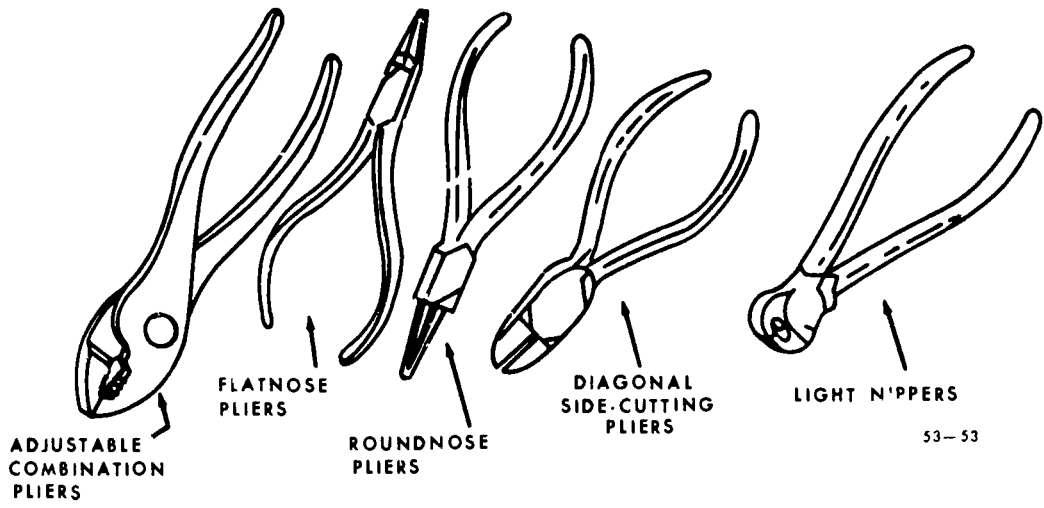

Figure 5-2. Pliers.
**Pliers.** As with screwdrivers, there are many types of pliers, and each type was designed to do a particular job better than the other types. Some of the different types are shown in figure 5-2. When you use pliers, be sure to wipe any oil film off the handles first. Also, be sure to grip well back of the pivot joint. This hand position will give you maximum pressure at the jaw's working end and will also keep you from pinching the skin on your hand between the handles. Never use pliers when you can accomplish the job with a wrench. The teeth of the pliers will quickly mar or damage a nut or finished object. Normally, the jaws of pliers should not overlap each other when closed. If they do, you can hold them in a closed position and grind the tips until they are even. When you use side-cutting pliers or the cutting edges on certain other types of pliers, don't try to cut anything that is too hard to file easily. Such cutting jobs will damage the cutting edges.